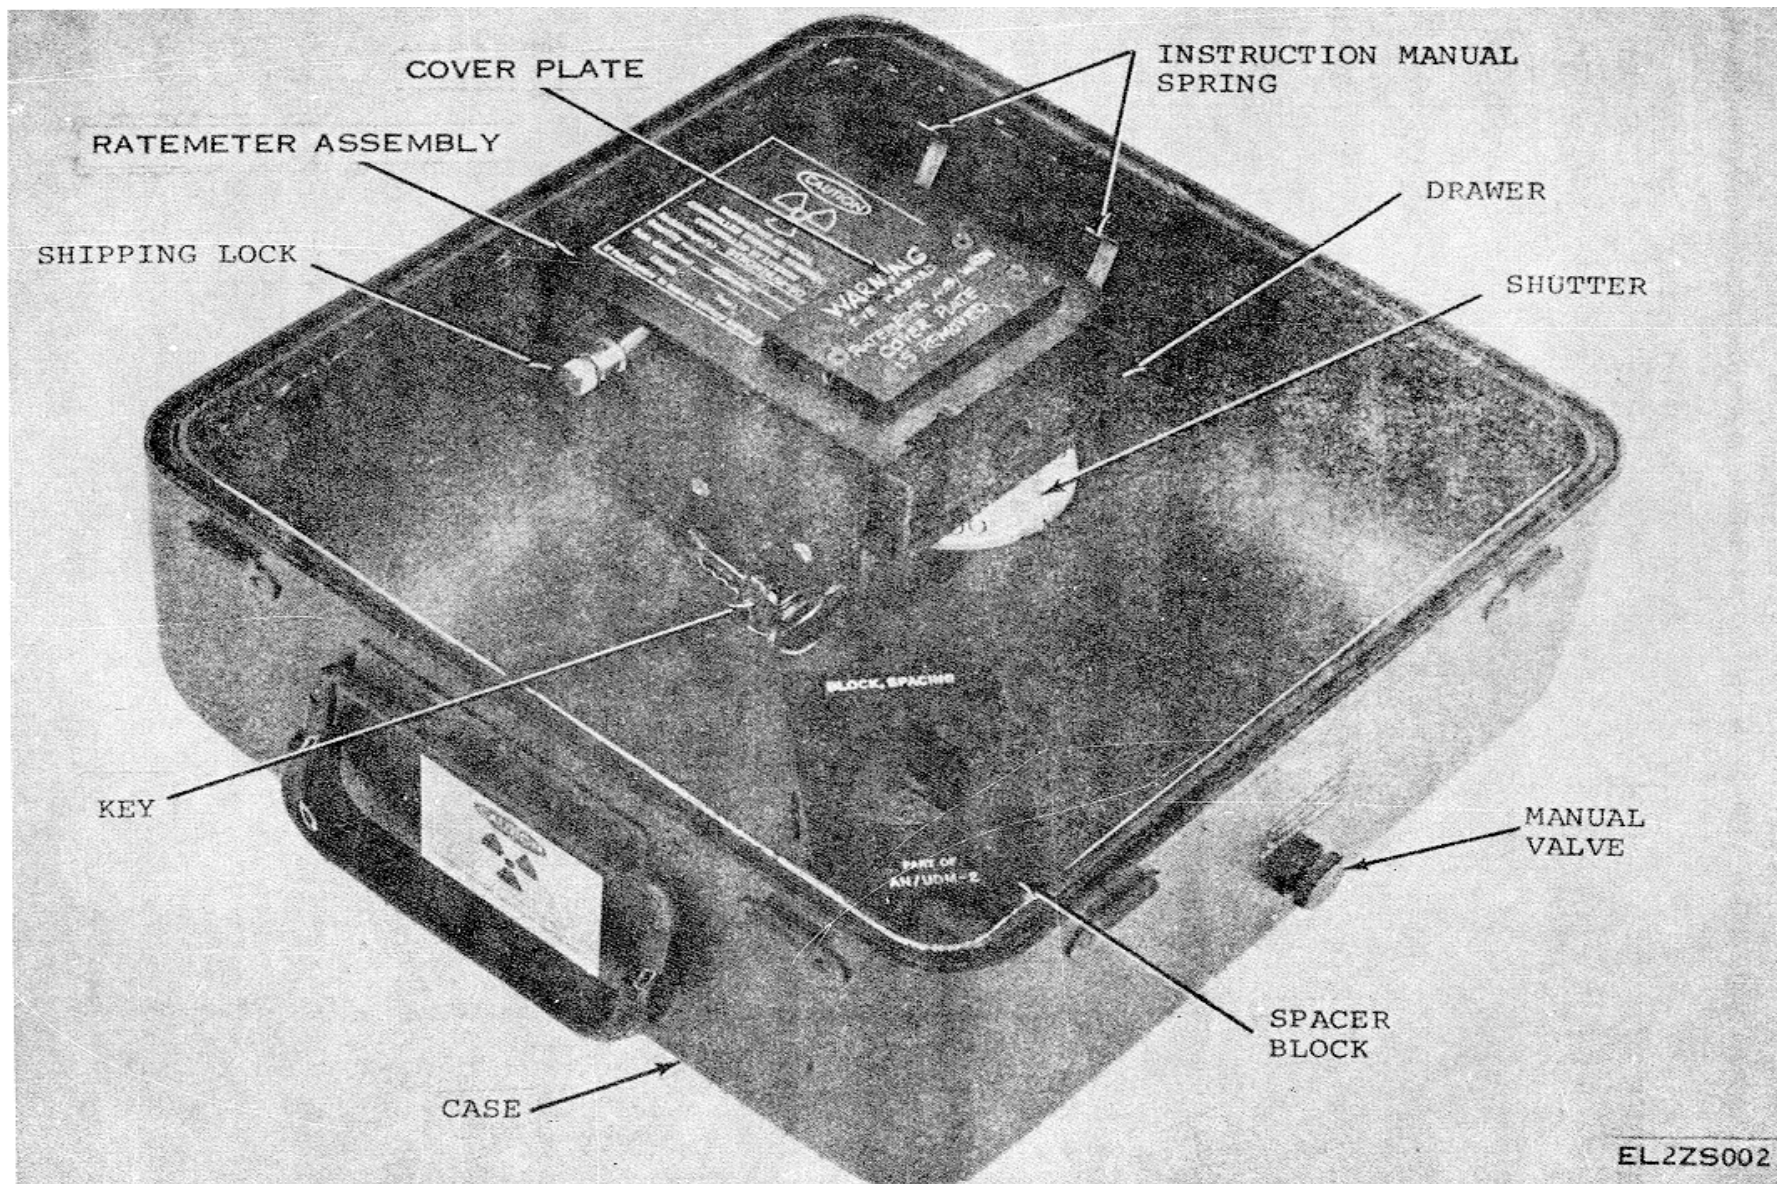

Figure 1-3. Calibrator, Radiac TS-3494/UDM-2
b. *Calibrator, Radiac* TS-3494/UDM-2 (fig. 1-3).
- (1) Remove the waterproof, pressure-sensitive tape from the top of the outer corrugated carton.
- (2) Lift open the flaps and remove the top and side corrugated fillers.
- (3) Remove the inner corrugated carton containing the AN/UDM-2.
- (4) Remove the waterproof, pressure-sensitive tape from the top of the inner carton.
- (5) Lift open the flaps and remove the AN/UDM-2.
- (6) Turn the manual valve (fig. 1-3) counterclockwise to equalize the pressure.
d. On the ratemeter assembly (fig. 1-3), check to be sure that the spacer block is in place and that the drawer slides open.
Calibrator, Radiac TS-3494/UDM-2 (fig. 1-3):